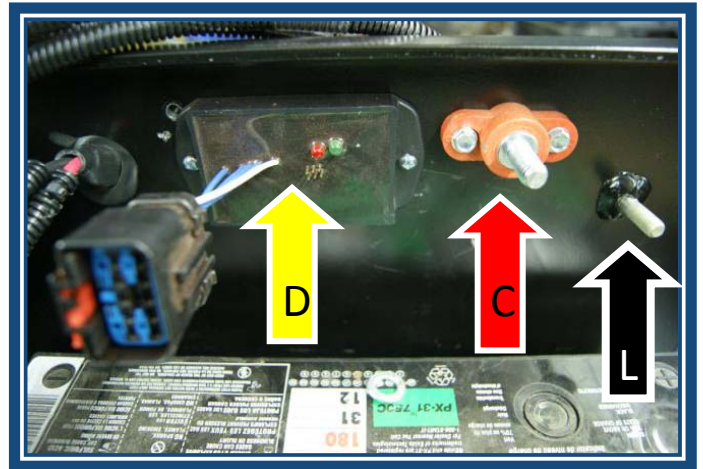

Figure 2
These should be mounted near the liftgate battery box ground stud (L) as shown in the picture to the right. (See Figure 2)